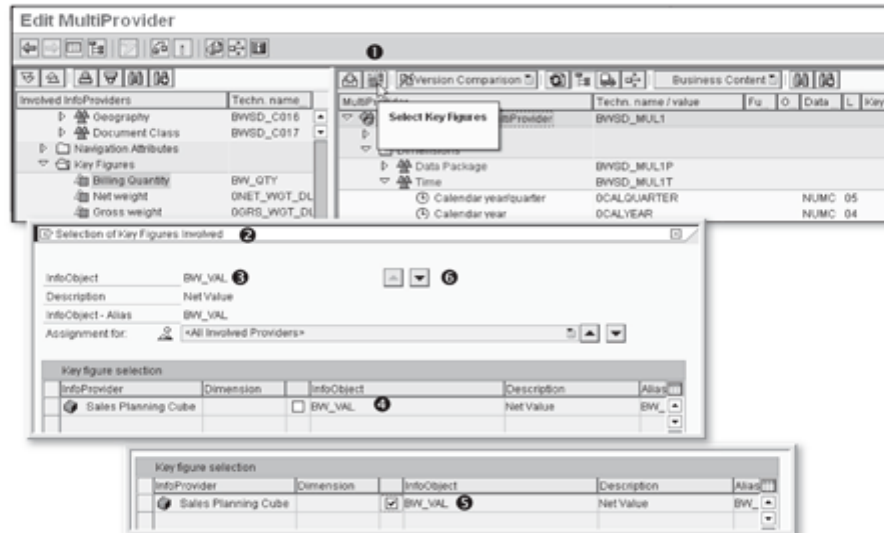

Figure 6.13 Edit MultiProvider: Selection of Key Figure Involved
After all of the characteristics included in a MultiProvider are matched, you also need to match the key figures. You need to select the Select Key Figures icon as shown in ❶ of Figure 6.13. The Selection of Key Figures Involved box appears (❷). The system lists each key figure involved in the MultiProvider one-by-one. Key figure BW_VAL is shown (❸). The system offers key figure BW_VAL from the Sales Planning InfoCube (❹). Because there's no matching key figure available in the Sales InfoCube, the system doesn't show any second key figures. Select the key figure BW_VAL (❺). You can go to the next key figure by clicking on the Next Object icon (❻).